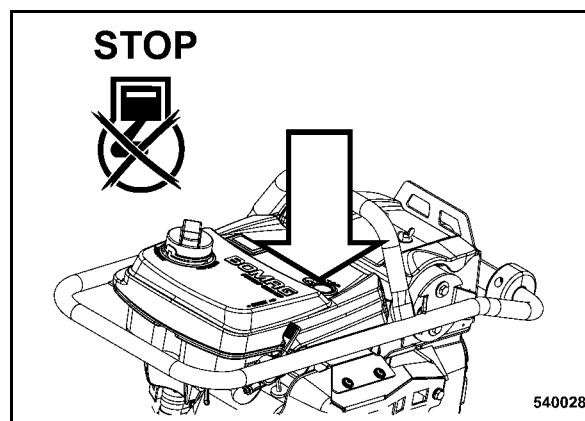

Fig. 22
- Press the engine shut-down button (Fig. 22).